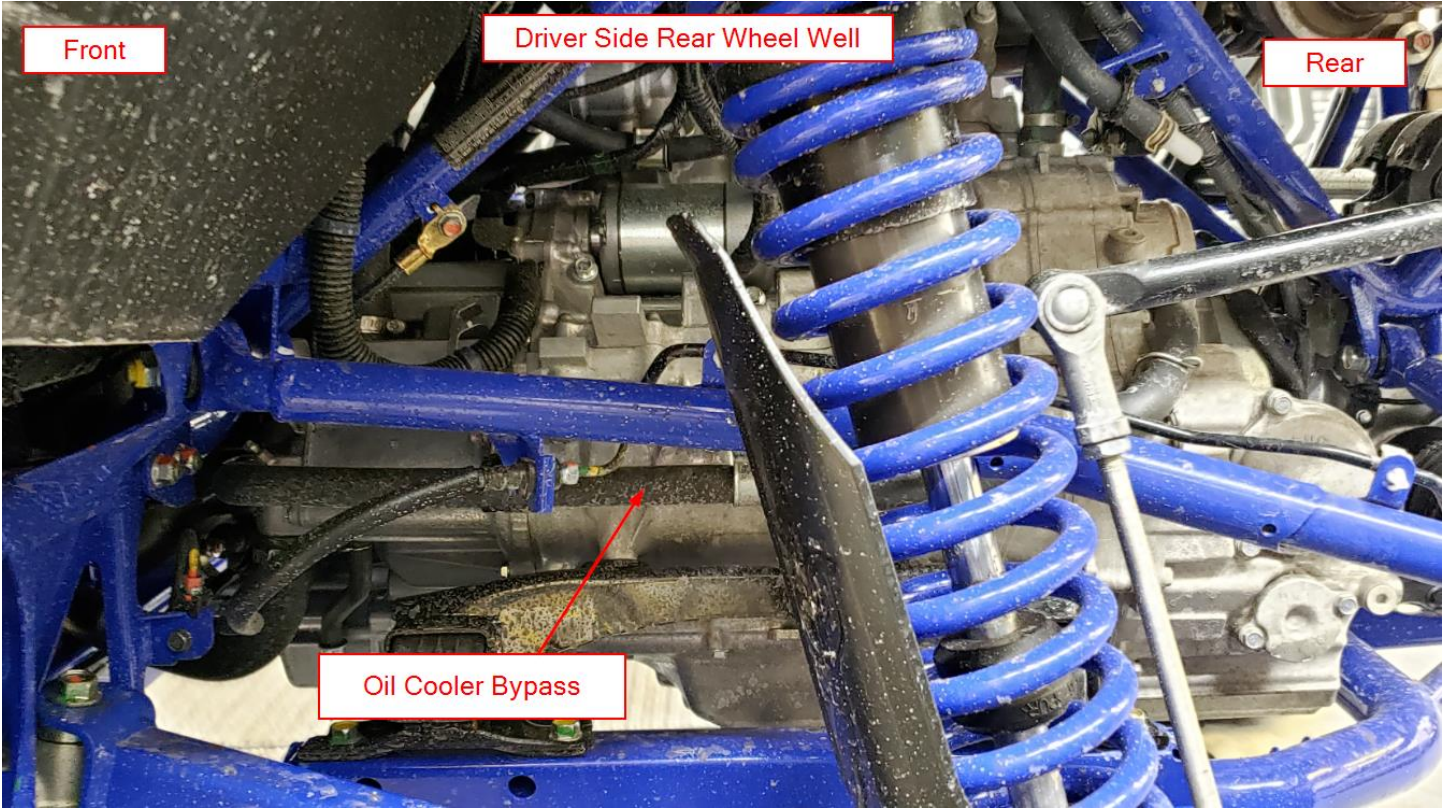

Figure 24
- a. Locate the oiler cooler bypass line at the driver side rear of the vehicle as shown in Figure 24.